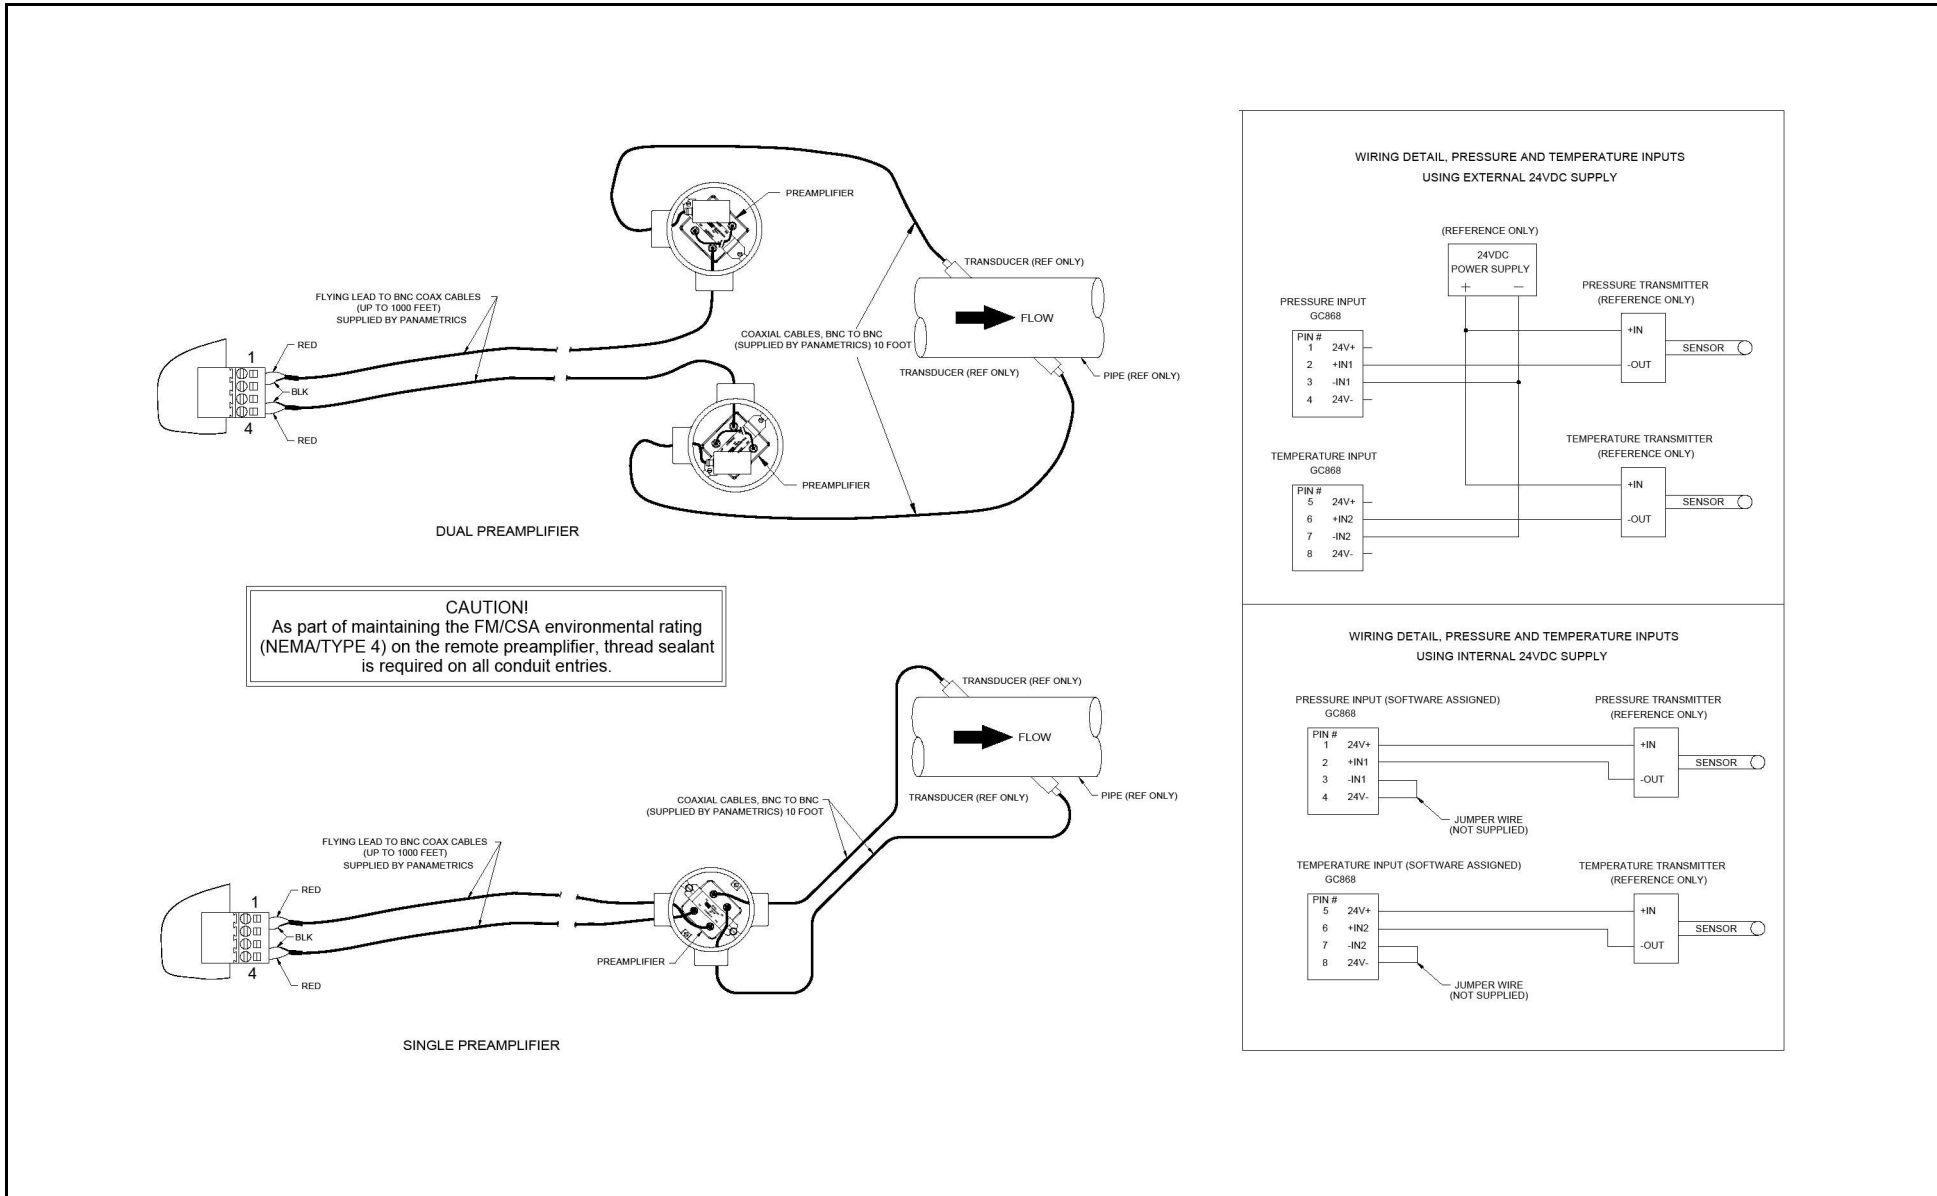

Figure 1-43: Model GC868 Transducer Wiring (ref. dwg #702-213, sht 2 of 2)
- Using the pair of coaxial cables with BNC to flying lead connectors supplied by Panametrics (or equivalent cables), connect the preamplifier to terminal block **CHI** in the electronics console. Refer to Figure 1-43 on page 1-44 for the location of the terminal block and the terminal block pin assignments.